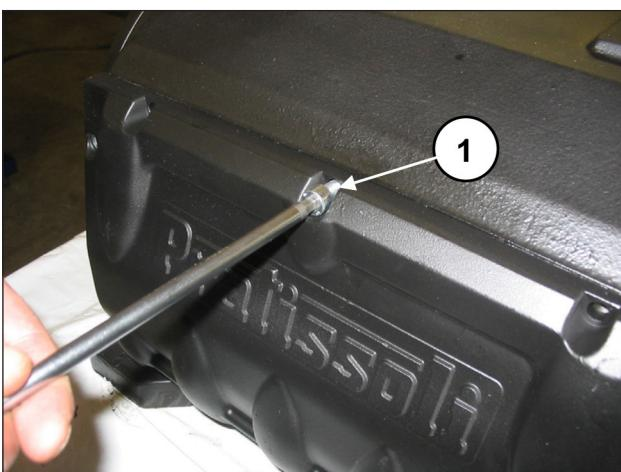

Fig. 75
Insert the O-ring on the rear cover (pos. ①, Fig. 74) and fasten it to the casing with 10 x M8x18 screws (pos. ①, Fig. 75).